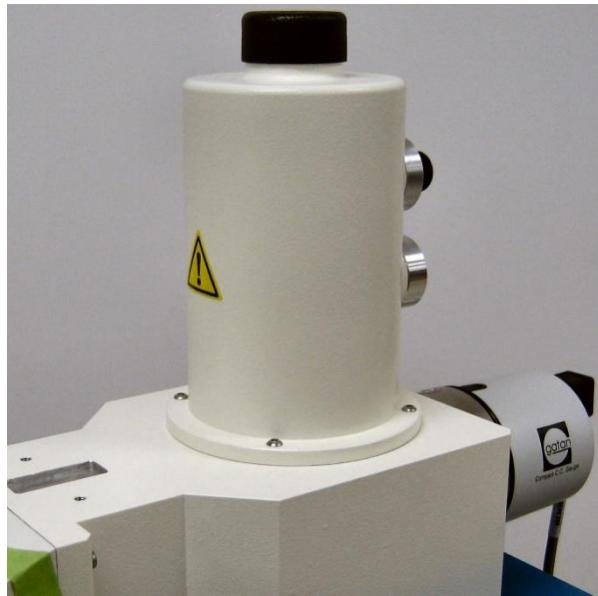

Figure 7-7. Dewar Assembly installed in manifold.
- 5. Disconnect the cold stage.** Remove the two M2.5 screws and washers and disconnect the cold stage heater from the hinged conductor assembly. See Figure 7-7.
- b) Remove the 4 M3 screws that secure the dewar to the manifold. See Figure 7-7.
- b) Install the 4 M3 screws that secure the dewar to the manifold. See Figure 7-7.